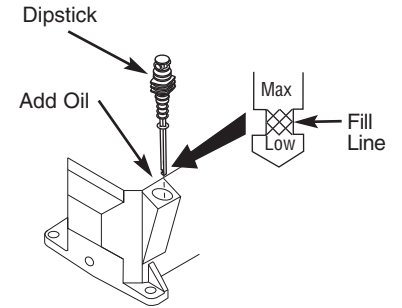

Figure 3
2. **Dipstick.** The dipstick measures the oil level in the compressor pump (See Figure 3).